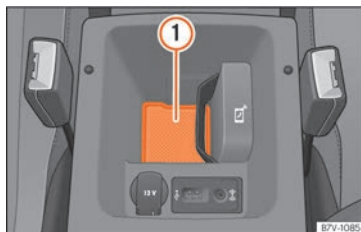

Fig. 229 The phone holder used for connecting the mobile phone to the car aerial is located in the front centre armrest.
For the connection to the aerial of the vehicle, the mobile phone must be on the lodging surface » **Fig. 229 ①**.